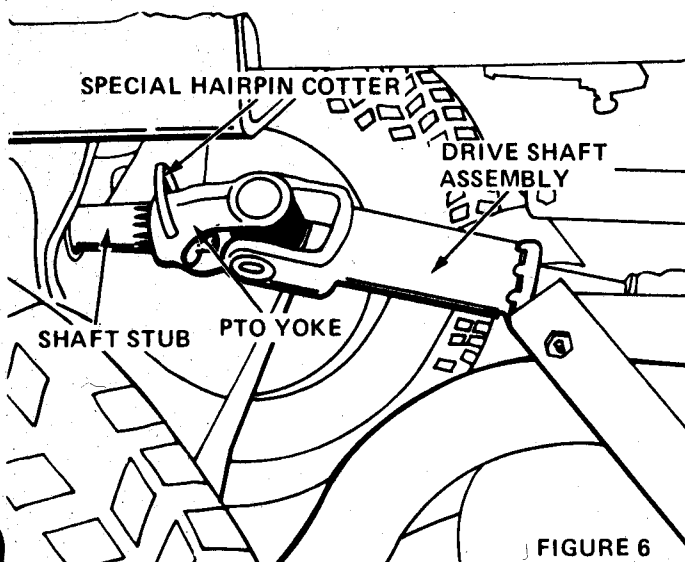

FIGURE 6
9. Apply a light coat of grease to the tractor P.T.O. stub shaft and the splines on the P.T.O. yoke, Figure 6. Slide yoke over the stub shaft and secure as shown with the special hairpin cotter provided. This "special" hairpin cotter is available through your Ariens dealer.
2. Remove special hairpin cotter from the drive shaft yoke and remove yoke from tractor P.T.O. stub shaft, Figures 6 and 7. Place drive shaft UNDER the tractor steering tie rod to prevent damage to the tie rod.